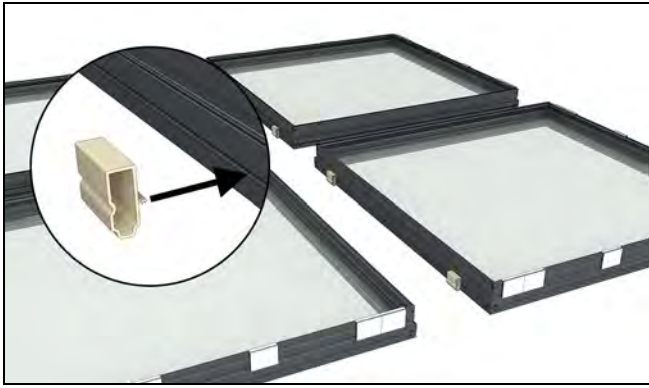

Figure 111
4. On the mull side of the assembly, attach mull filler blocks about 6" from each end of each frame. The blocks will barb into the nail fin kerf as shown in Figure 111.